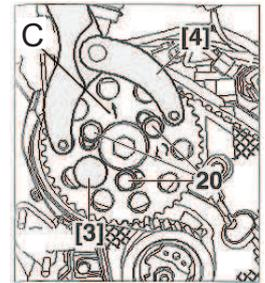

FIG. 5
- ③ Check that the reference mark "c" is positioned to the 12 o'clock position (FIG. 5).
- ④ Loosen the camshaft pulley bolts (FIG. 5) [20] and the fuel injection pump pulley bolts (FIG. 6) [21].
- ① Place the lock pins to lock the camshaft and fuel injection pump pulleys (FIG. 5 and 6) [3 and 5]. Then, turn the pulleys clockwise until they are fully and completely tensed.